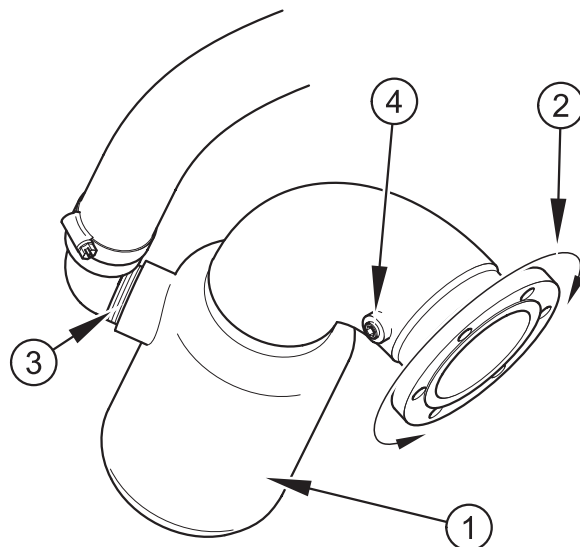

Figure 21
Figure 21 shows a typical exhaust elbow (1) with water injection (3). The elbow can be rotated (2) to achieve the optimal position.